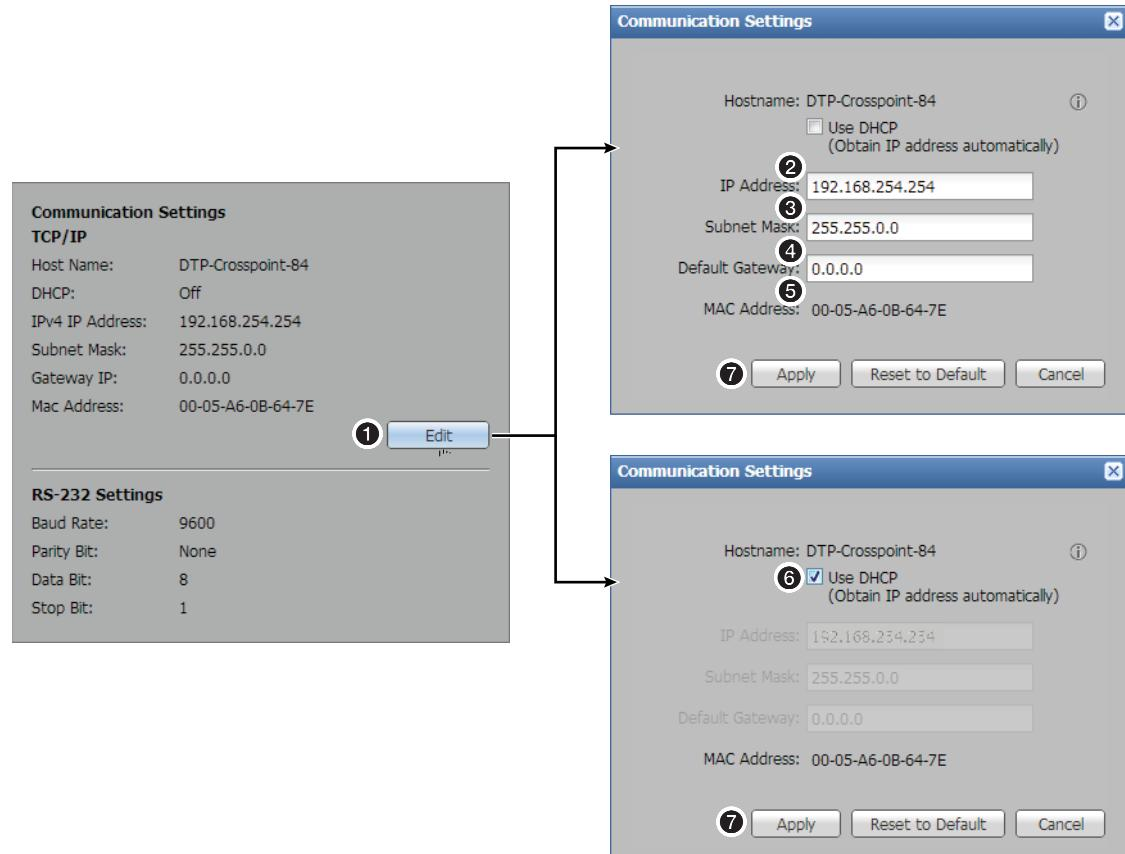

Figure 78. Communications Settings Dialog Box
Click the **Edit** button in the Communications Settings panel (see figure 78, ①) to open the Communications Settings dialog box. The dialog box provides a location for viewing and editing settings unique to the Ethernet interface. See the *IPCP Pro 350 Series User Guide* at www.extron.com for basic information about IP addresses.
4. Click the **Apply** button (see **figure 78**, 7 on page 121) to make the address change take affect.